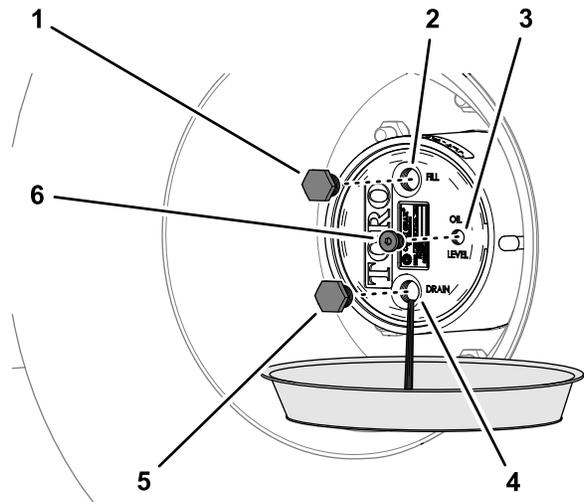

Figure 96
2. Place a drain pan under the hub of the planetary-gear drive, remove the drain plug, fill plug, and the check plug, and allow the lubricant to drain completely (Figure 96).